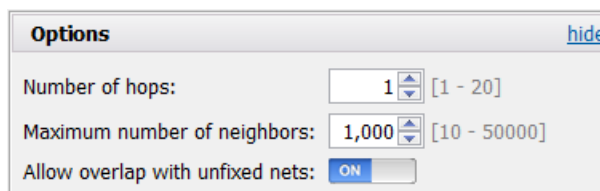

Figure 3-16: Routing Assignment Options
- The Options section, shown in Figure 3-16, controls the settings for the Routing Assignment window.